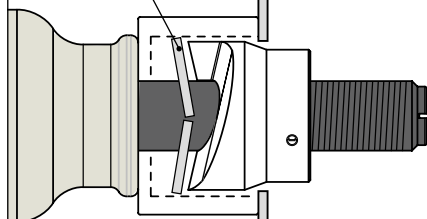

FIG. 2
- Unlock the moving handle (36) through the strap (01).
- Press the pressure release button (44), the ram will retract and the punch released.
- Remove the punch from the draw stud then carefully and completely remove punch scrap and any residue from the die (Ref. to Fig. 2).